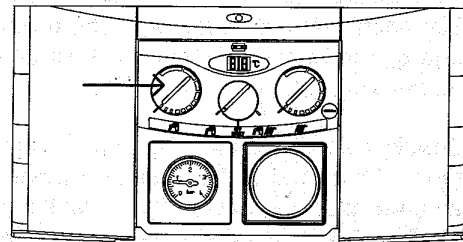

Fig. 3
- 2.3** The maximum water flow rate to the tap is set at a predetermined maximum delivery. The temperature of water at the tap can be varied by adjusting the water flow rate at the tap up to the predetermined maximum. The hot water temperature control knob  (7) will govern the maximum temperature. Turning the knob clockwise increases the setting, anticlockwise decreases setting. (Fig. 3)